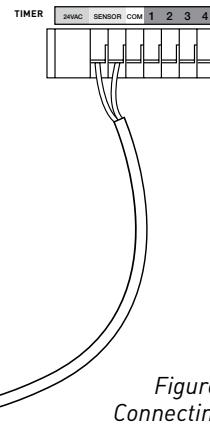

Figure 6:
- Connect the rain sensor wires to the wiring terminal ports (yellow in color) labeled "Sensor" (see figure 6).